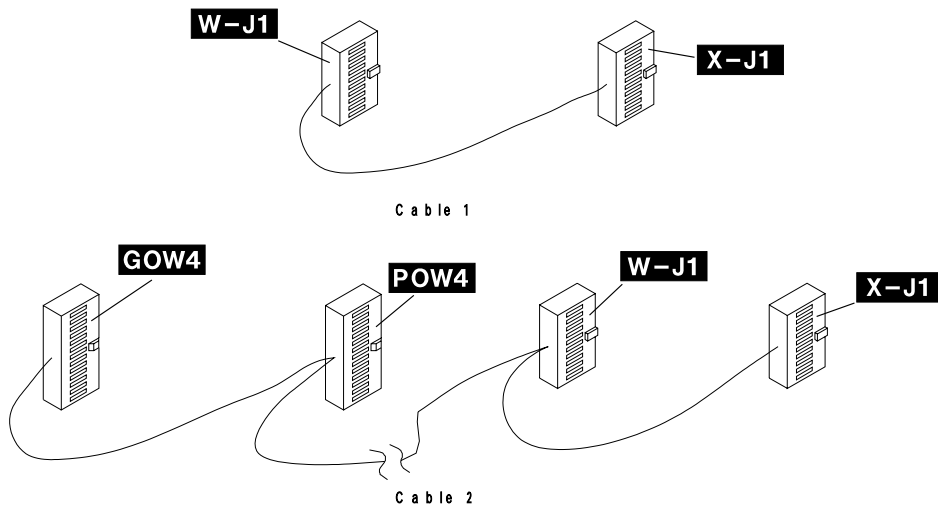

Figure 4-25. DICO Cables
- Step 3. \_\_\_\_ Determine the type of the LAB1 board. The first LAB in the machine at location 01G-A1 can either be a TSST or TSSB type. A LAB type TSSB can be identified by the presence of a board address card in 01G-A1-B2. This is a small single-position wide card. If a four-wide card or no card is present, then the board is a TSST type. If you have a **TSSB** board obtain the DICO **cabl e 1** PN 43G3180, for a TSST board obtain **cabl e 2** PN 43G3181 (see Figure 4-25).